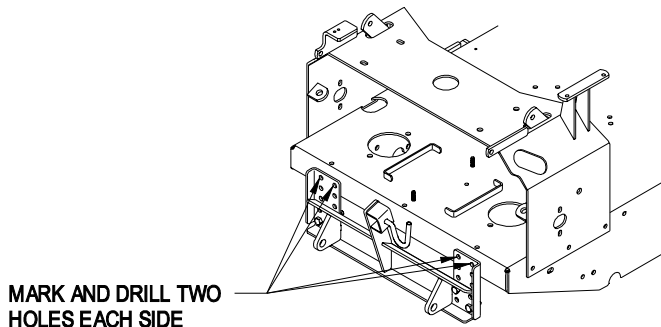

FIGURE 3
3. Center the mount brackets on lower rear surface of mower engine deck and mark (4) hole locations as shown in Figure 3. Drill (4) 0.407" diameter holes through the engine deck at the marked locations.